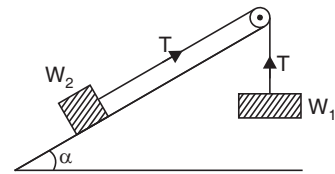

FIGURE 2.15
55. Two weights W_1 and W_2 are connected by a light inextensible string. Weight W_2 is placed on a smooth inclined plane of inclination α and W_1 hangs freely as shown in Fig. 2.15. If W_1 moves downwards then acceleration is equal to
56. If in Fig. 2.15, weight W_2 is placed on a rough inclined plane of inclination α and co-efficient of friction μ , then the acceleration is equal to